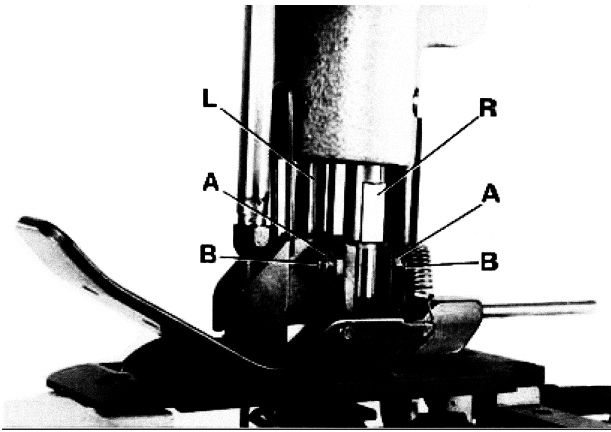

Fig. 10
Remove the needle and rotate the pulley until the feed dog is below the throat plate. Depress the presser foot lifter lever and insert the presser foot in the two presser bars (L and R, Fig. 10). The right presser bar (R) should only engage with its pivot in the groove of the presser foot shank.
Loosen the two lock nuts (A, Fig. 10) and align with the two set screws (B), the needle slot in the presser foot with the needle slot in the throat plate. Secure this setting with the two lock nuts (A).